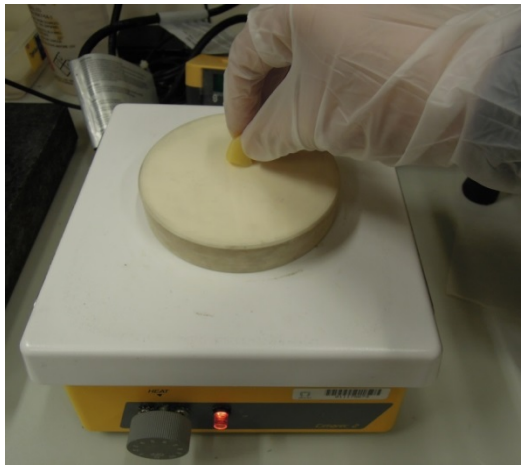

Fig. 4
- 4) Melting enough wax on the ceramic holder, as shown in Fig. 4.